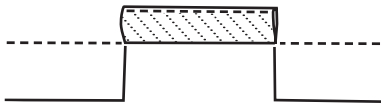

Figure 9
4. Fold the resulting “placket” section twice to the inside. Topstitch or slipstitch in place (Figure 9).